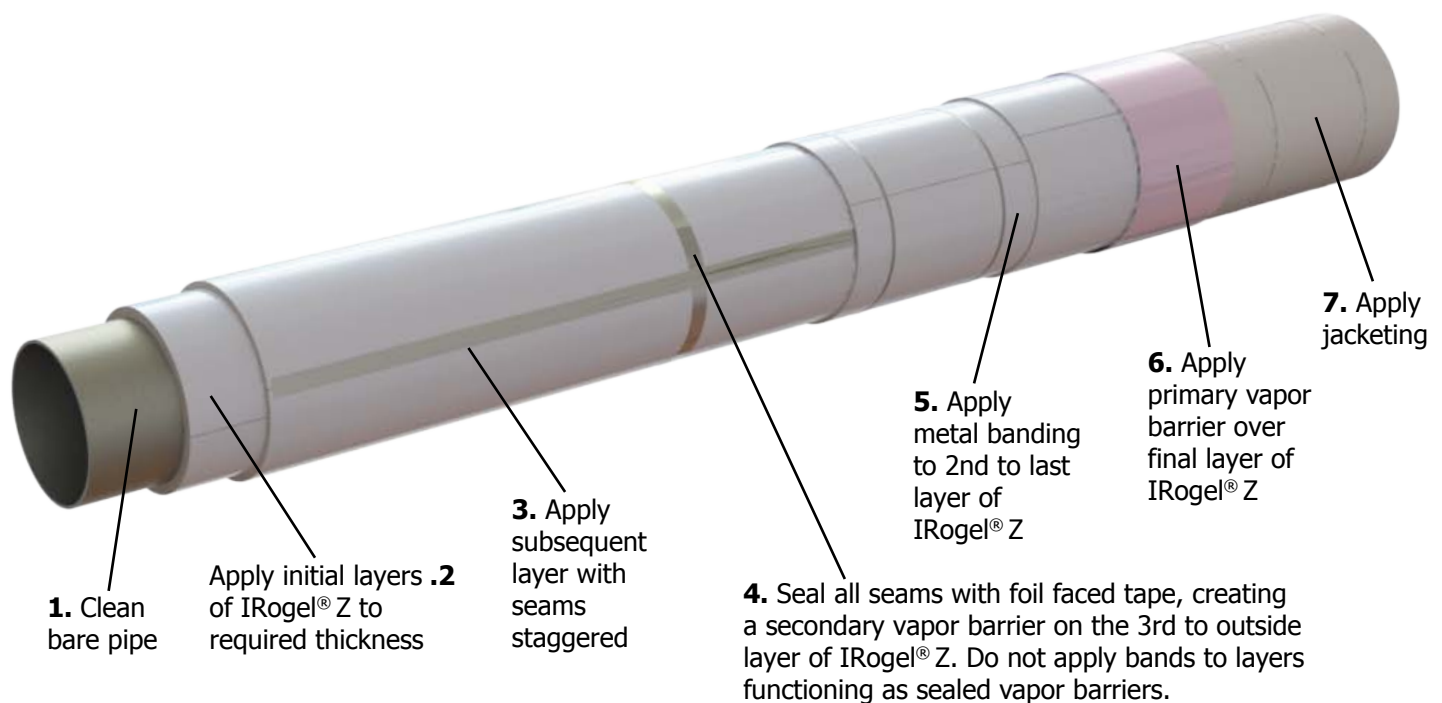

Figure 1.
- For piping or equipment operating below -40°C (-40°F), install a secondary vapor barrier two layers beneath the primary vapor barrier by sealing all seams of the IRogel® Z with foil faced tape (see Figures 1 and 2)